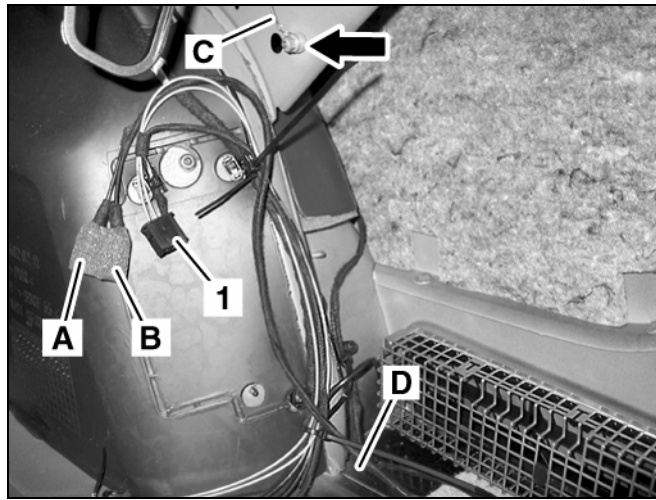

Figure 10
4. Remove cable tie holder from lower mounting stud (D, Figure 10), next remove nut (arrow, Figure 10) from upper stud (securing ground wire to vehicle body).
6. Locate antenna connectors (A, B, Figure 10) and power supply/MOST connector (1) taped to vehicle harness and roll back foam covering to expose antenna connectors.